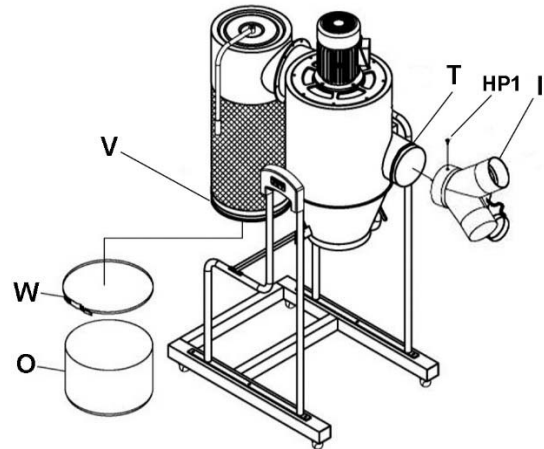

Figure 10
11. Apply foam tape (T) around inlet port near edge. See Figure 10. The foam tape should completely encircle the port.
12. Install inlet adaptor (I) on main housing and secure with pan head screw (HP1).
13. Apply foam tape (V) just above lower lip of canister filter. The foam tape should completely encircle the canister filter.
14. Install collection bag (O) to bottom of canister filter and secure with steel bag clamp (W). Note: Masking tape can be used to hold bag in position on canister until clamp is secured.